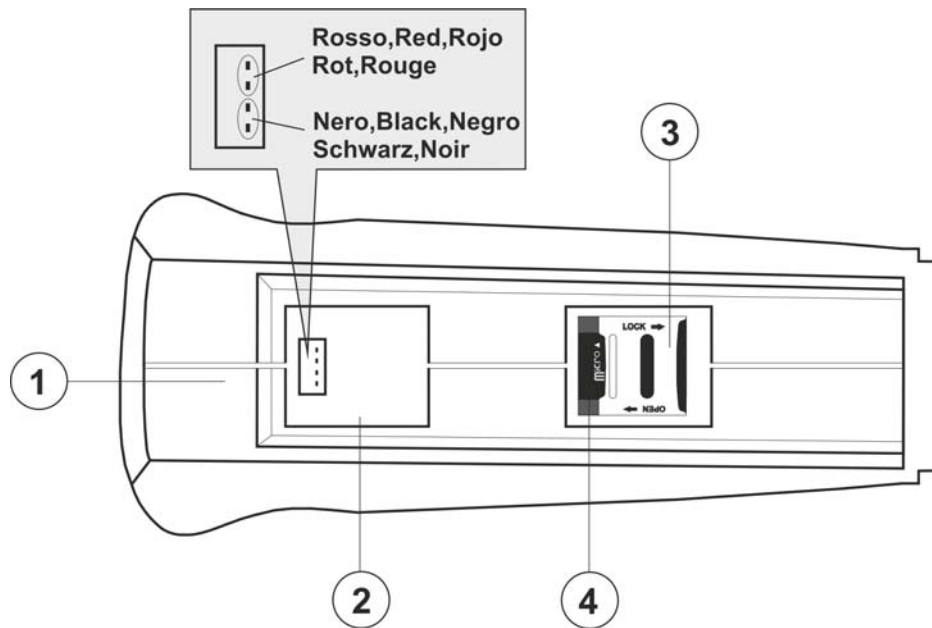

Fig. 4: Description of the instrument's battery compartment
3. Move the locking mechanism (see Fig. 4 – part 4) in the “OPEN” position and lift it